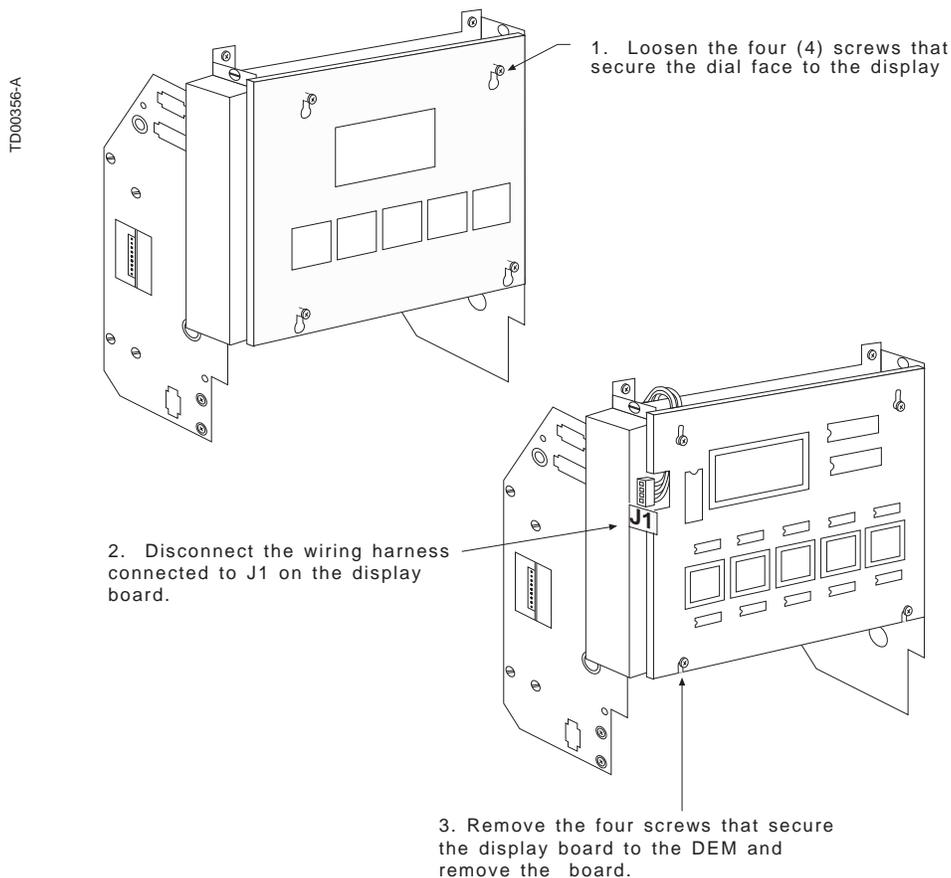

FIGURE 7-5. REPLACING THE INTEGRATED DISPLAY BOARD. Remove the dial face from the display by loosening the four screws in the corners of the dial face.
2. Remove the dial face from the display by loosening the four screws in the corners of the dial face and then slipping it up and off of the display (see Figure 7-5.).